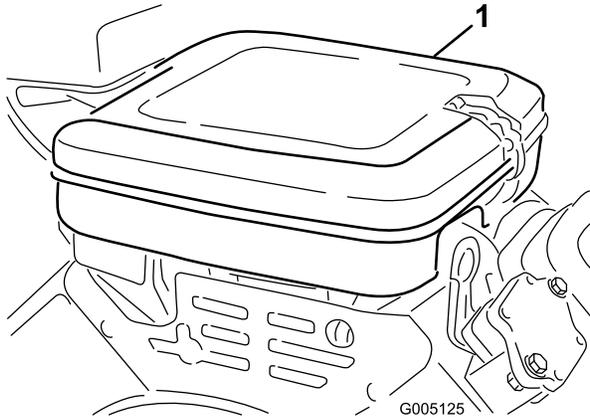

Figure 40
1. Clean the cover thoroughly (Figure 40).